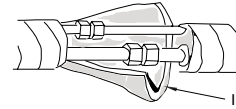

Fig.7
- (4) Wrap the indoor pipe and joint of connection pipe with insulating pipe, and then wrap it with tape. (As show in Fig.7)